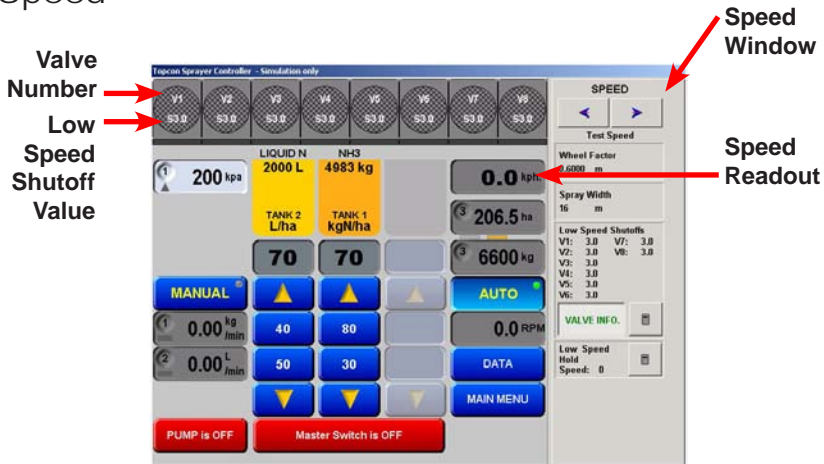

Figure 10-3. Working Screen Showing Speed Window
The Speed Readout (Figure 10-3) displays the current ground speed, either from: Wheel sensor, Tractor Radar, GPS Speed (page 8-8) or Test Speed.
Select the **Speed Readout** to display the *Speed* window (Figure 10-3).
Select the Increase Speed arrow (▶) or Decrease Speed arrow (◀) (Figure 10-3) to set a test speed. The test speed will be displayed in the Speed Readout
- **Valve Info**—this button will display the valve information for each section valve, on the Boom Section icons (Figure 10-3 on page 10-8). This displays which Boom Section is connected to each section valve and displays the Low Speed Shutoff for each valve